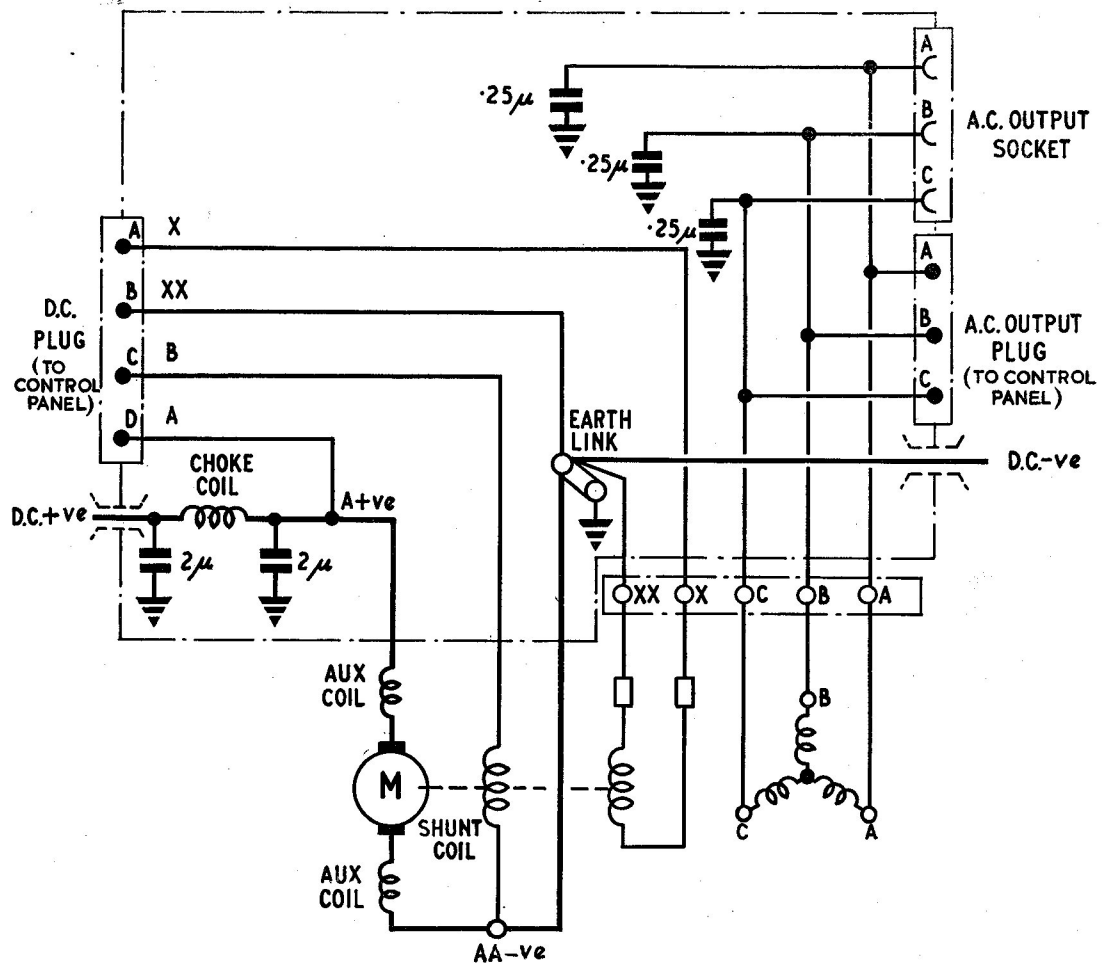

Fig. 3. Internal circuit diagram
6. A terminal box is mounted on the side of the inverter and all the internal electrical wiring terminates at three plugs attached to the box. The box contains a choke coil and five condensers for radio interference suppression, and these are connected in the inverter circuit as shown in *fig. 3*. A removable earth link is attached to the outside of the terminal box.